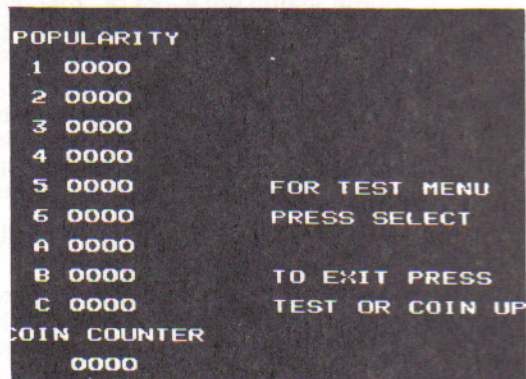

Figure 7. Report screen
C. Popularity Report Screen. Press select, and the popularity report screen appears. From this screen, you can tell how many times each game has been played. In the bottom left corner is an electronic coin counter, which keeps track of the number of credits issued by the game (Fig. 7). The numbers displayed on the popularity report screen can be cleared by pressing the bullseye when this screen is on. NOTE: the electronic coin counter will also reset to zero when this is done.